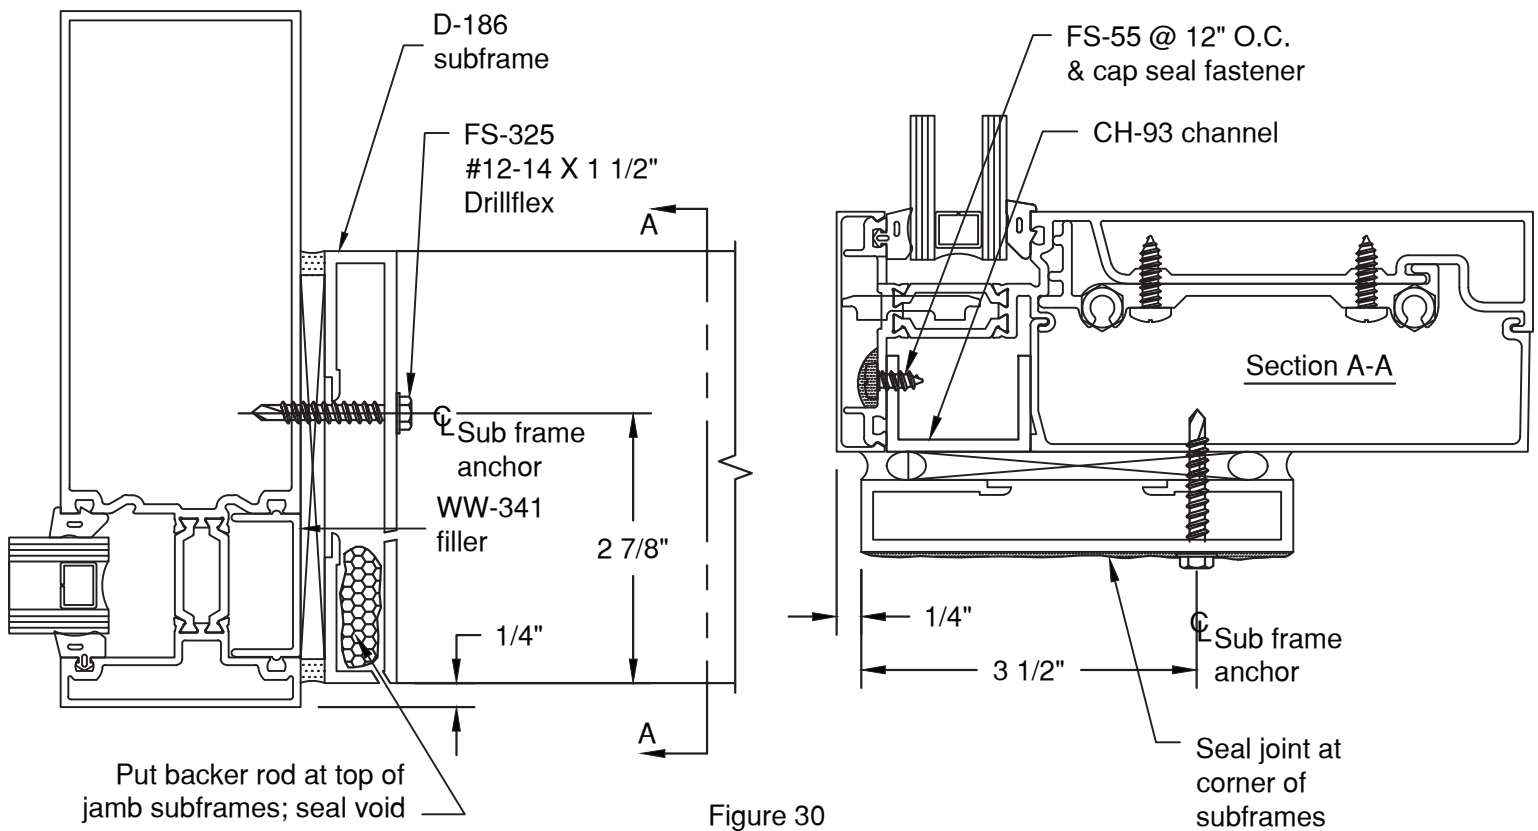

Figure 30
- C.2.1 Attach TH-44 threshold clip to bottom of each jamb subframe with two (2) FS-256 #8 x 1 1/2" Phillips Round Head Screws.
- C.2.3 Bed subframes in sealant and anchor to curtain wall framing members with FS-325 #12-14 x 1 1/2" Drillflex at 18" O.C. Seal joint between jamb and header subframes. Seal also the tops of the jamb subframes. **SEE FIGURE 30**